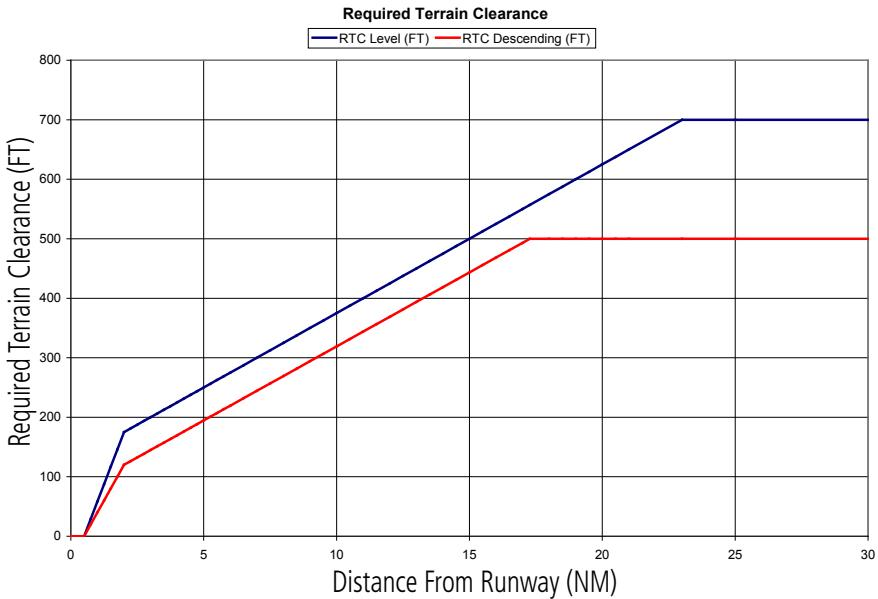

Figure 6-134 FLTA Alert Minimum Terrain and Obstacle Clearance Values
**Reduced Required Terrain Clearance (RTC)** and **Reduced Required Obstacle Clearance (ROC)** alerts are issued when the aircraft flight path is above terrain, yet is projected to come within the minimum clearance values in Figure 6-134. When an RTC alert is issued, a potential impact point is displayed on the Terrain-SVS Page.
**Imminent Terrain Impact (ITI)** and **Imminent Obstacle Impact (IOI)** alerts are issued when the aircraft is below the elevation of a terrain or obstacle cell in the aircraft's projected path. ITI and IOI alerts are accompanied by a potential impact point displayed on the Terrain-SVS Page. The alert is annunciated when the projected vertical flight path is calculated to come within minimum clearance altitudes in Figure 6-134.